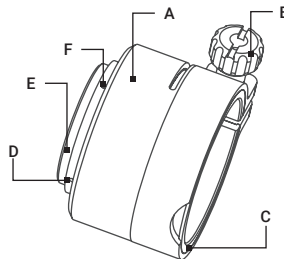

FIGURE 2-7. FRONT SCOPE MOUNT
Install the Victrix on the lens of a day scope as follows (refer to Figure 2-7):
3. Using a screwdriver, remove the M2×2.5 screws (F, see Figure 2-7) and then unscrew the ring (E).
To loosen the ring (E, Figure 2-7), use the two auxiliary non-threaded holes (D). DO NOT USE the threaded ones.
4. Using a lathe or other precision cutting tool, cut the inside face of the ring (E, Figure 2-7). The value of cuts (in millimeters) should be equal to the value of the turning angle (in angular degrees) divided by 360°.
5. Screw the ring (E) into the FSM's body with its cut end directed inwards. Tighten the screw.
6. After applying a small amount of thread lock to the threads, affix the ring (E) using the two M2×2.5 screws (F).